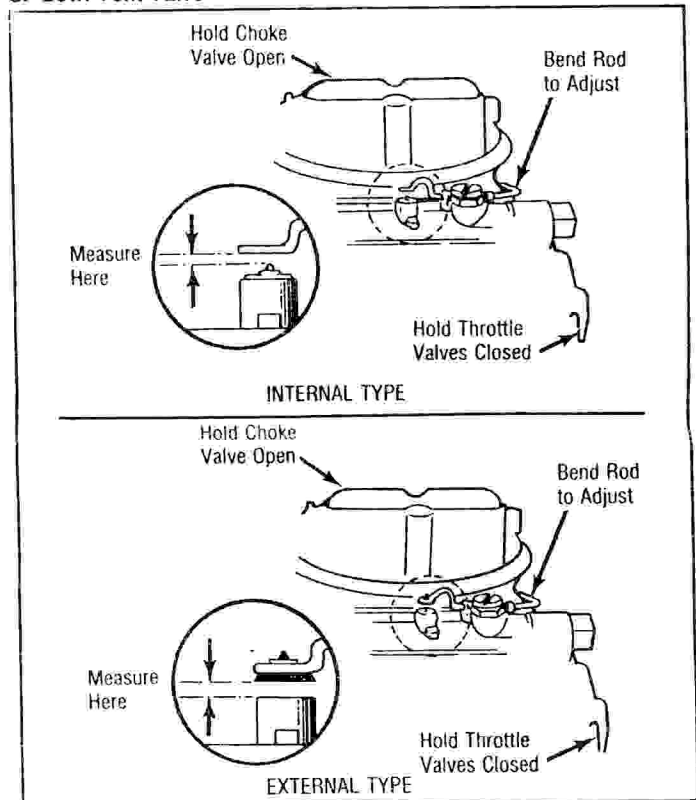

Fig. 8 Bowl Vent Valve Adjustment
- Hold choke valve wide open. Close throttle valves, making sure throttle lever is against stop screw. See Fig. 8.